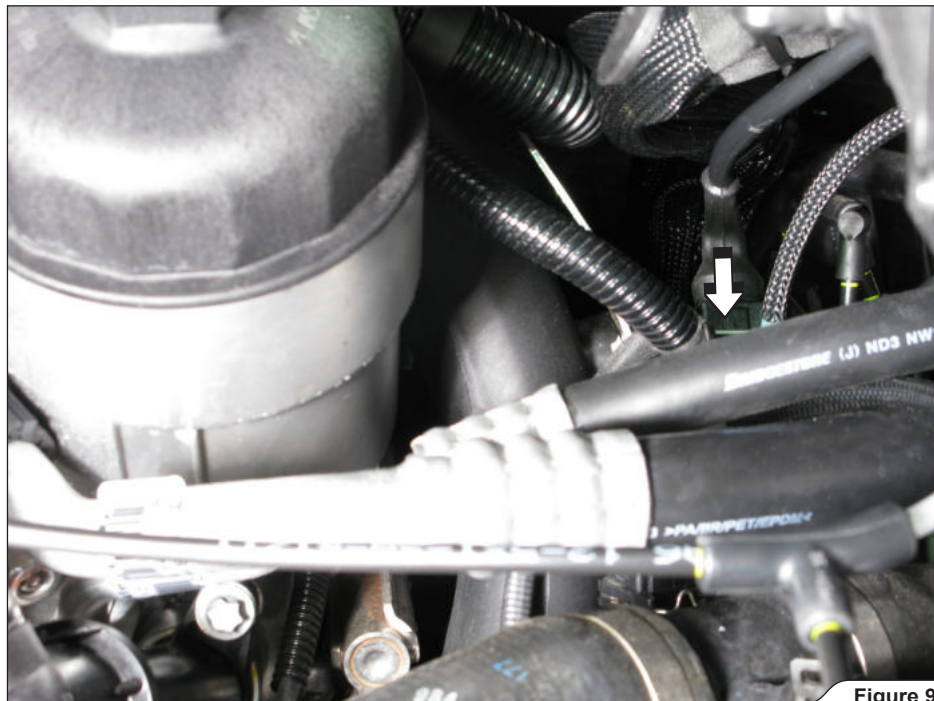

Figure 9
8. Correctly connect the longer pair of Akrapovič wireless connectors between the stock ECU valve control unit and stock ECU valve control unit's connector, as shown (Figure 9, 10).